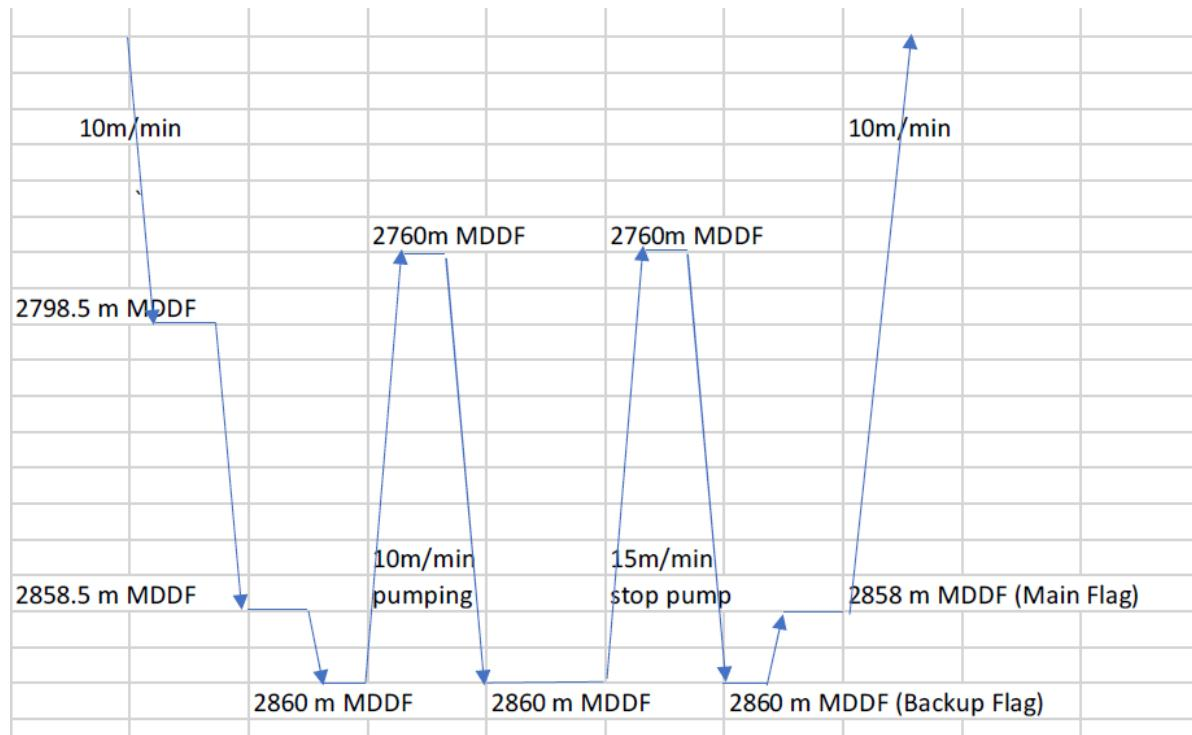

Figure 2: Actual SMART Blaster + GRCCL Running Sequence
7. Once completed, continue with GRCCL sequence as per Figure 2